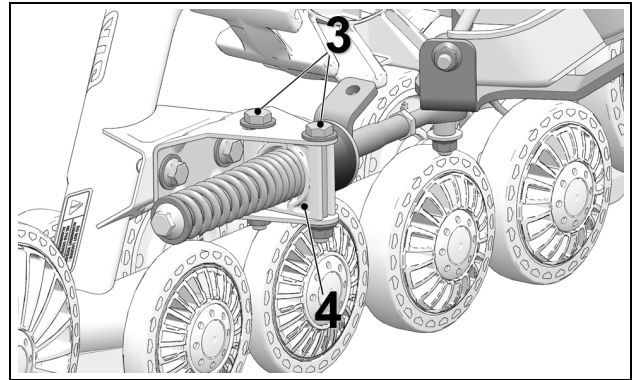

Figure 9
- Loosen anti-rotation bracket bolts (3) to allow the anti-rotation retainer (4) to rotate on its axis. See Figure 9.